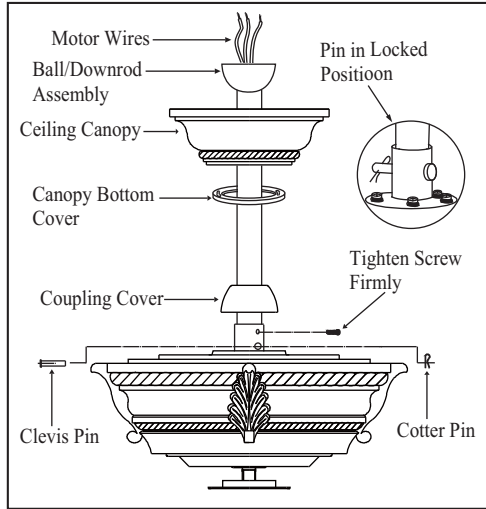

Figure 9
- Slip coupling cover, canopy cover and canopy onto downrod. Carefully reinstall hanger ball onto rod being sure that cross pin is in correct position, set screws are tighten and wires are not twisted. (Figure 9)